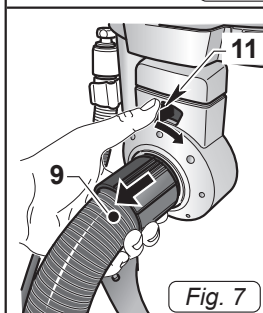

Fig. 7
- To release the sleeve (9 Fig. 7) turn the lever (11 Fig. 7) clockwise and then pull the sleeve outwards (9 Fig. 7).